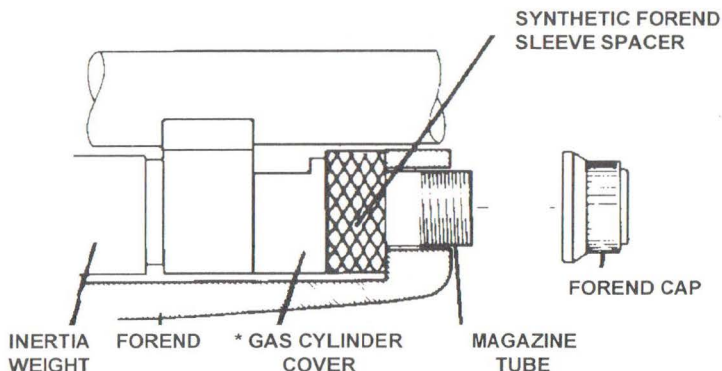

Fig. 7
* The barrel assembly includes a gas cylinder cover to protect the valve system (Fig. 7). Models with synthetic forends include a sleeve spacer.
The sporting M9200 (not used on 9200A1) barrel assembly includes a gas cylinder cover to protect the valve system (Fig. 7).